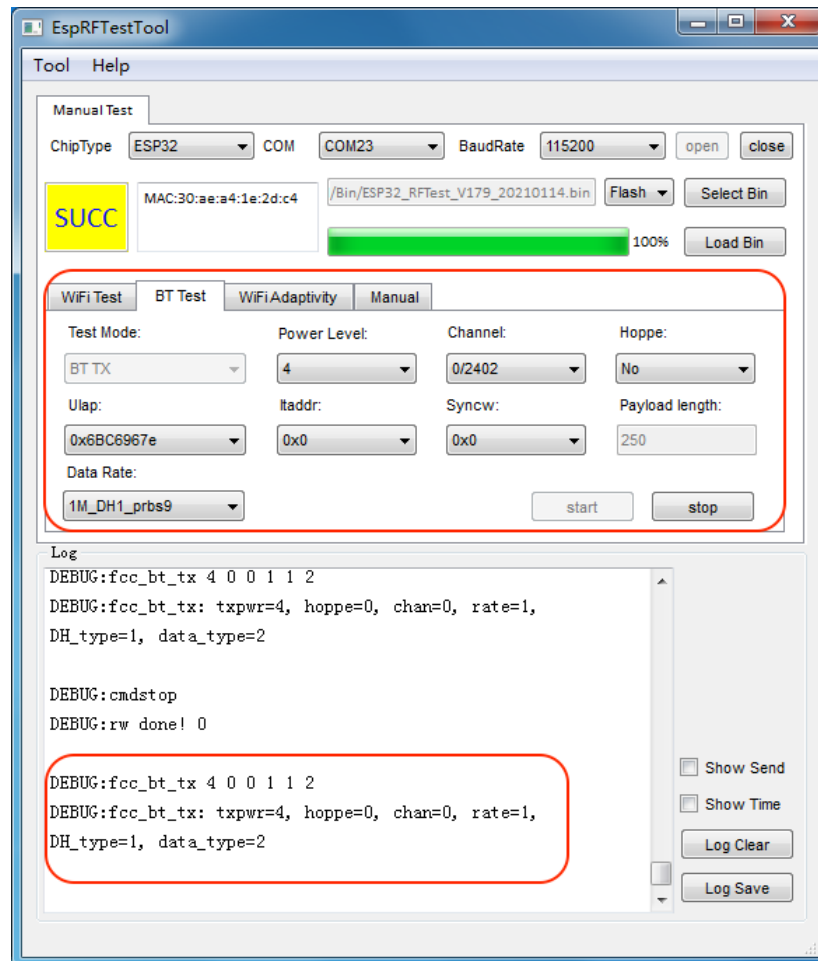

Figure 2-5. Bluetooth Test Interface
- Switch to the **BT Test** tab and configure the parameters: In general, set **Power Level** to 4 and other parameters according to the actual needs. Figure 2-5 shows the ESP32 Bluetooth Fixed Frequency Test interface.